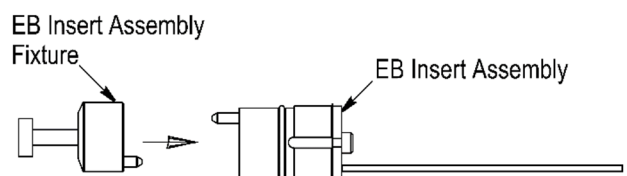

Figure 11
1. Slide the spring onto the ferrule assembly. See Figure 11, Detail A.
2. Align the end of the ferrule assembly with the appropriate channel cavity of the EB insert, and insert the ferrule assembly into the channel cavity until the O-ring is against the channel cavity. See Figure 11, Detail B. To avoid damage to the fiber, **DO NOT** push on the fiber to install the ferrule assembly.
3. Using the ferrule insertion tool, **push on the spring** until the ferrule assembly bottoms in the channel cavity (the O-ring will be inside of the cavity, and the spring will protrude slightly from the cavity). See Figure 11, Detail B.
4. Align the index pin hole of the ferrule plate with the index pin at the back of the EB insert, and slip the fiber into the closest slotted hole in the ferrule plate. See Figure 11, Detail C.
5. Push the ferrule plate against the EB insert, making sure that the index pin enters the index hole. Thread the screw through the screw hole of the ferrule plate and into the hole in the EB insert. See Figure 11, Detail D. Using the 2.5-mm hex wrench, tighten the screw to a torque between 0.8 and 1.0 N·m. Check to make sure that the ferrule plate is flush with the EB insert.
7. Align the guide pins with the guide holes, and fit the EB insert assembly fixture onto the EB insert assembly. Refer to Figure 11, Detail E.